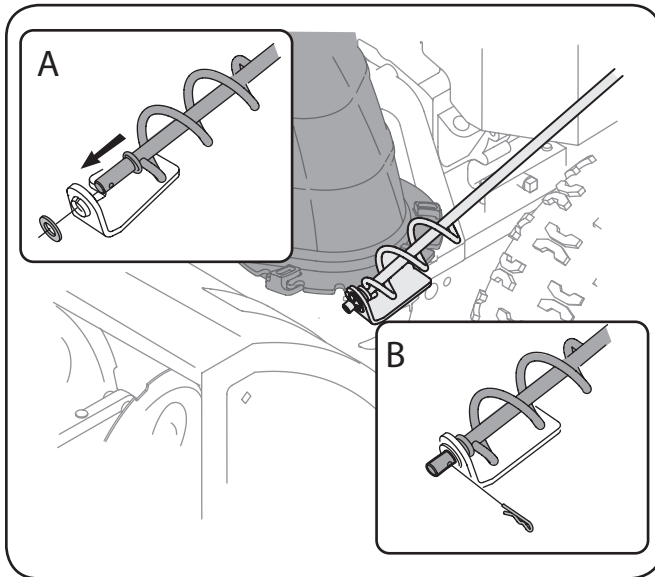

Figure 3-4
1. Remove the plastic cap (if present), flat washer and hairpin clip from the end of the chute directional control. See Fig. 3-4.